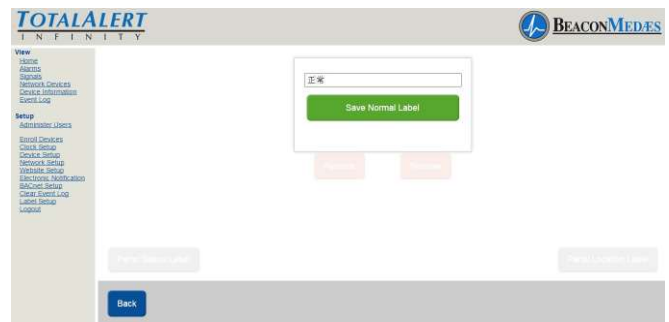

Figure 286
3. Enter non-latin language text for meaning of "Normal". Click save button to enter. (See Figure 286) Choose "Back" button to return to the main setup screen.